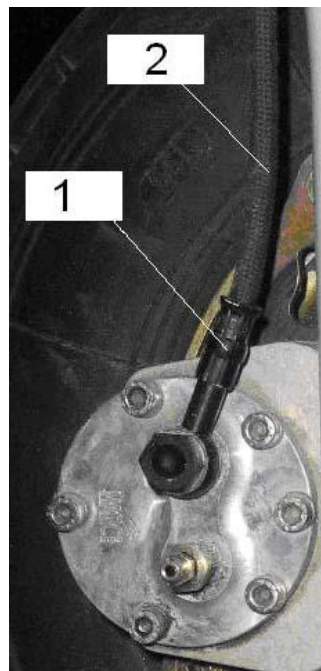

Fig. 3
Unscrew the nut (Fig. 3, pos. 1) from C9997417E (Fuel L-adapter A-Wek-6/4-1/8-MSv) and disconnect the line C9997205R (6x4 nylon tube) (Fig. 3, pos. 2). Prevent draining of brake liquid out of the hose by plugging it up.